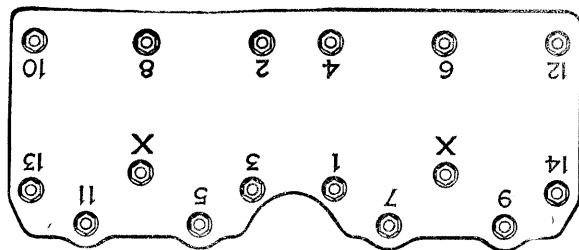

Fig. A-26—
5. Fit the rocker shaft to the cylinder head. When in position, the oil feed holes in the rocker shaft must face the push-rods. Tighten all the bolts down in the manner illustrated by Fig. A-26:  $\frac{7}{16}$  in. bolts to 55 lb/ft (7.5 mKg);  $\frac{5}{8}$  in. bolts to 35 lb/ft (4.5 mKg).